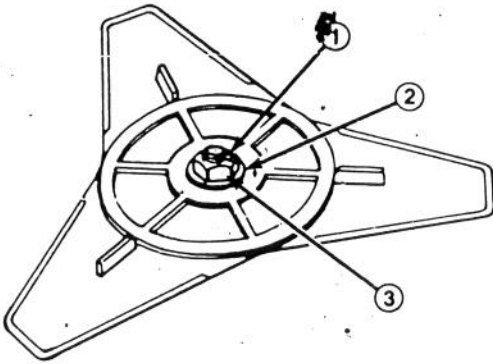

Figure 3
4. Insert cotter pin through hole in shaft and wrap ends around shaft (Fig. 3).